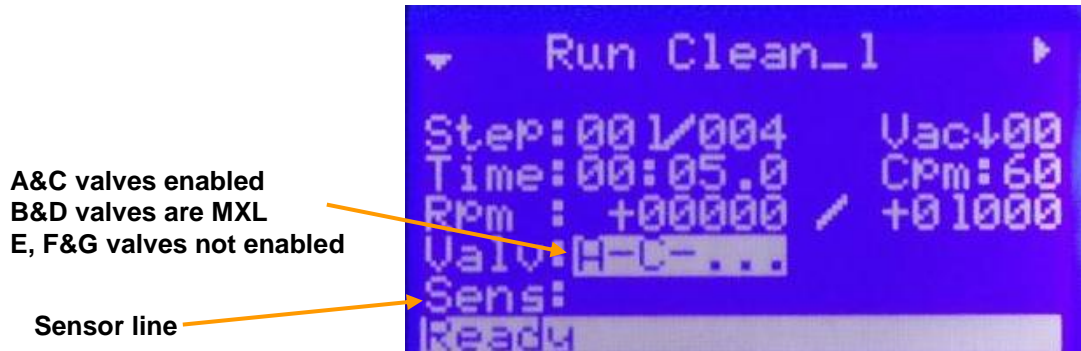

Figure 3-11A
- **Valv** - Following the “Valv” label is a field indicating desired valve positions. From left-to-right the valves are labeled “A, B, C...” up to 16 possible valves. If a valve is enabled a letter appears. A dot “.” indicates the valve is off. A dash “-” indicates the valve is off and is mutually exclusive (MXL) with some subset of valves (also indicated by “-” if off). Valves that are mutually exclusive to each other cannot be turned on simultaneously. Only one valve of a MXL group can be on at any one time. If another valve in that group is activated, the other valve will automatically turn off. This is a safety feature to prevent incompatible chemicals from dispensing at the same time. The MXL feature can only be assign in Spin 3000. This field has a sub-menu where the valve names are displayed and whether or not they are mutually exclusive. Press the F1 key to enter the valve sub-menu, see figure 3-11B. Use the navigation or the “pg up” or “pg dn” keys to scroll through the list of valves. If valves are designated as MXL, the submenu will show “MXL” beside the associated valves, see figure 3-11B. Press the F2 key to exit a submenu. In the run mode the user is able to scroll down to the “Valv”, “Sens” or “Type” line. Figure 3.11A shows the highlighted valves or “Valv” line. When the “Valv” or “Sens” line is highlighted the F1 key is activated. Figure 3-11A shows that there are 7 valves, “A” and “C” are enabled, “B” and “D” are MXL and not enabled, valves “E”, “F” and “G” are off in step 1 of Clean_1 program.